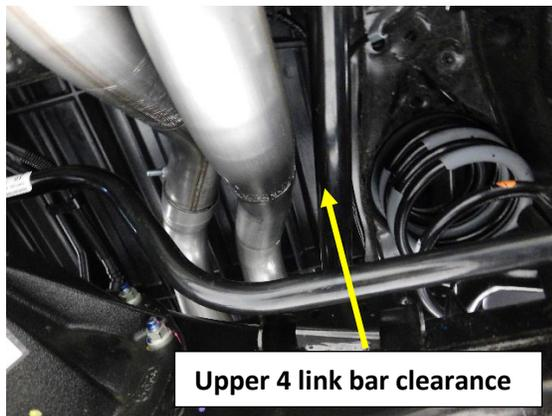

Figure.8
8. Install the Left Muffler Outlet Pipe (5) into the mufflers left (drivers side) outlet. Install the rubber isolator on to the hanger rod and frame hanger. Rotate the outlet pipe to a $\frac{1}{2}$ to $\frac{3}{4}$ " clearance on the upper 4 link bar. Tighten the clamp just enough to prevent movement. **Fig.8**